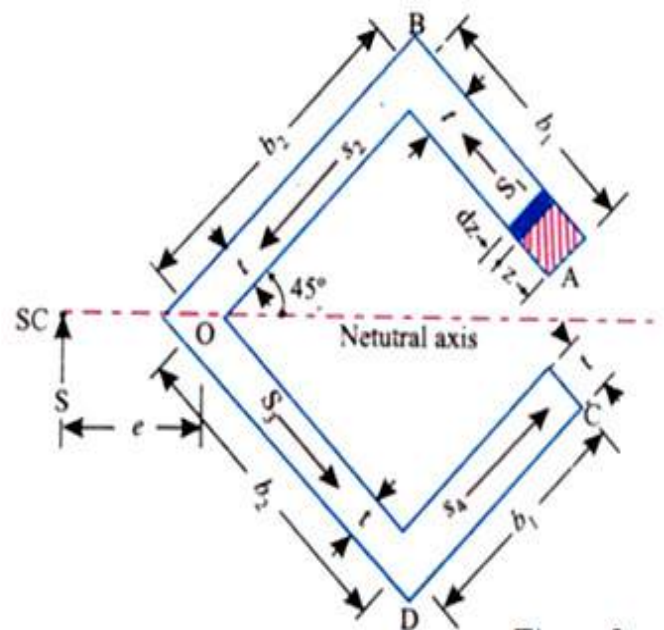

Figure 3
- Locate the shear centre of the section shown in Figure 3.